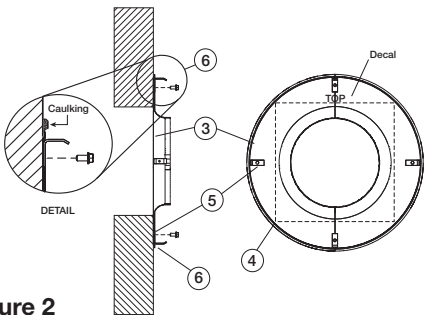

Figure 2
2. Locate the mounting plate (3) at the desired position and check to avoid unit clearance problems. Cut the wall opening (4) as shown based upon dimensions obtained from the Dimensional Data section found on page 2. Locate top of mounting plate (decal) and attach to the wall construction. The fasteners must pass through the holes provided in the mounting angle clips (5) on the mounting plate (3). For uneven surfaces, shims may be required. Sealant or caulk should be applied in the groove (6) formed by the mounting plate and the wall to prevent moisture leakage into the building. *Reference Figure 2.*